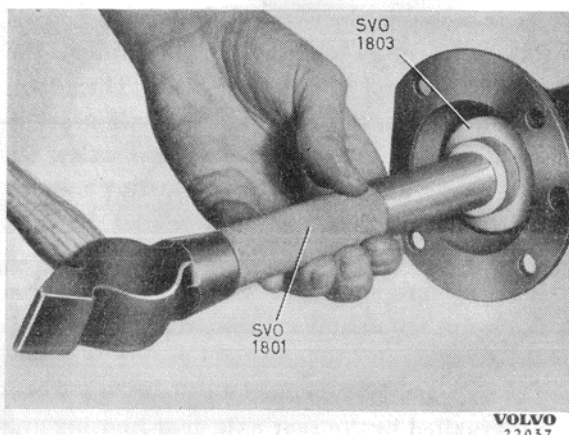

Fig. 5. Fitting the seal ring.
4. Drive in the new seal ring. Make sure that it lies correctly. Use tool SVO 1803 as shown in fig. 5.